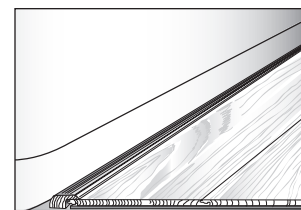

Figure 12
- Molding may be used along a straight tub or shower base (Fig. 12). The expansion zone should be filled with 100% silicone caulk and the molding seated in the caulk while it is still wet. The joint between the molding and the tub or shower base should also be caulked.